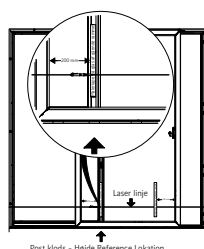

Figure 9: Laser position 1
14. Place vertical masking tape on the glass on both sides of the master sash, centered above the wheels, at a height that intersects the laser beam (200 mm from the end of the aluminium) (figure 9).